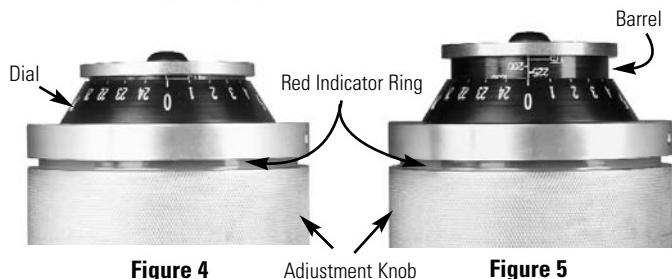

Figure 4 Figure 5
There are 25 marks on the dial (0-24) and 15 marks on the barrel (175-525 by 025 increments). The top of the barrel corresponds to a 160 setting. When the adjustment knob is rotated to the top most position on the crimper, and the "0" mark is located as shown in Figure 4, the machine setting is 160. Each complete downward rotation of the adjustment knob increases the target setting by 025; each mark around the dial corresponds to a 001 change in target setting. For example, to achieve a target setting of
5. When the fitting is fully crimped, all movement in the machine will stop and the black guard around the piston (pinch point hat) will move up and completely cover the red indicator ring (see figure 4 and figure 5) located on the adjustment knob.